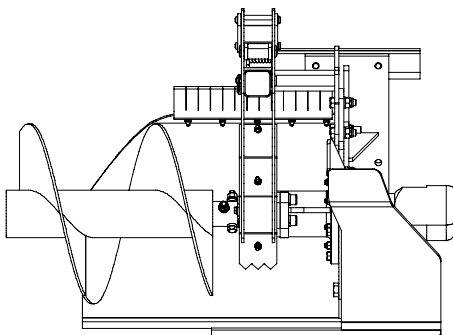

Figure 25
1. Install the bolt in the hole furthest from the auger flights. The auger flights should be at least 4 in (102 mm) from the chain [Figure 25].